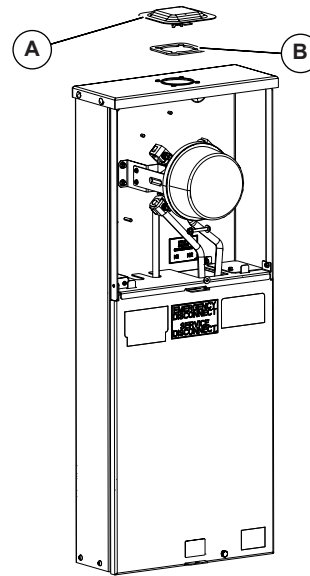

Figure 3-4. Install Top Cover
3. See Figure 3-4. Align the cover (A) with the holes and the gasket (B).